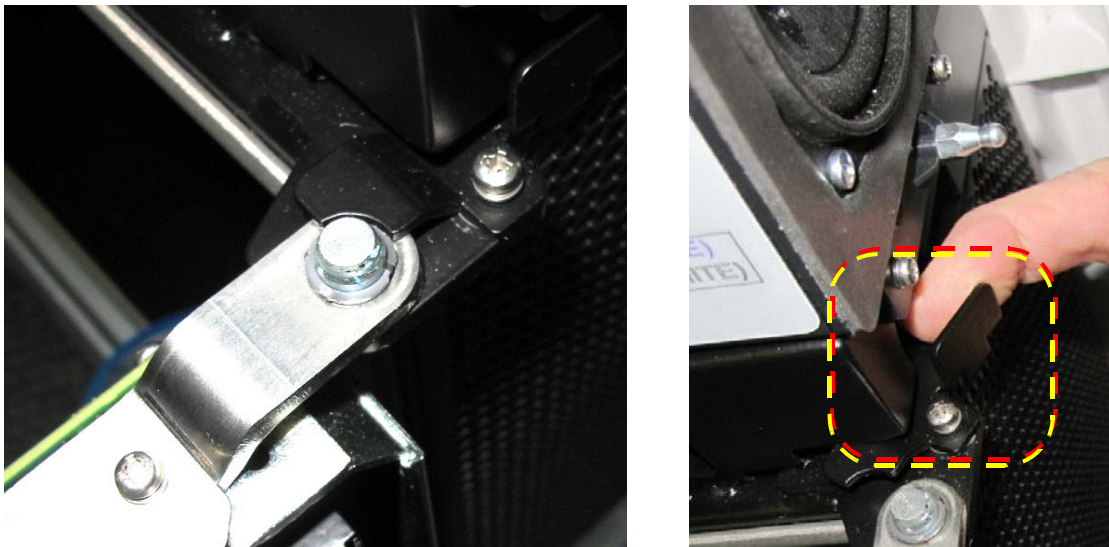

Figure 8-110 Open Safety-Catch on Hinge of Cage Door
- 7.) Open the safety-catch on the cage-hinge - see Figure 8-110.
- 2.) Close the safety-catch on the cage hinge - refer to Figure 8-110 on page 8-86.